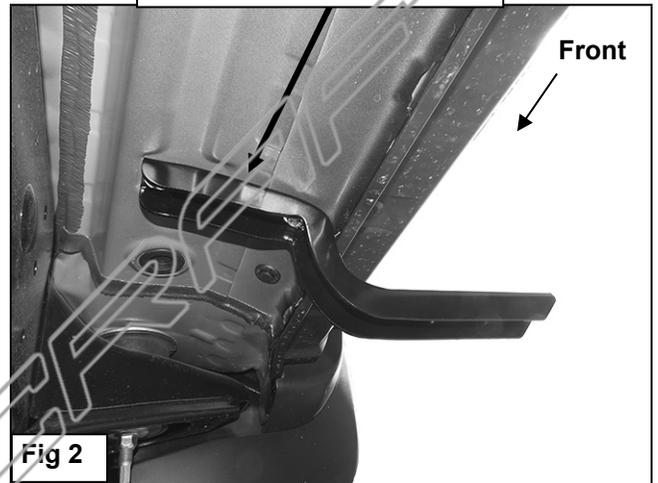

Fig 2
2. Starting on the passenger side of the vehicle, remove the existing (2) factory bolts, (or plugs), located by the front tire opening, (Figure 1). Select (1) Front Mounting Bracket. Hold the Front Bracket up to the bottom of the body panel and against the pinch weld. Bolt the bracket to the factory threaded holes with the included (2) 8mm x 30mm Hex Bolts, (2) 8mm Lock Washers and (2) 8mm Flat Washers, (Figure 2). Do not tighten hardware at this time.